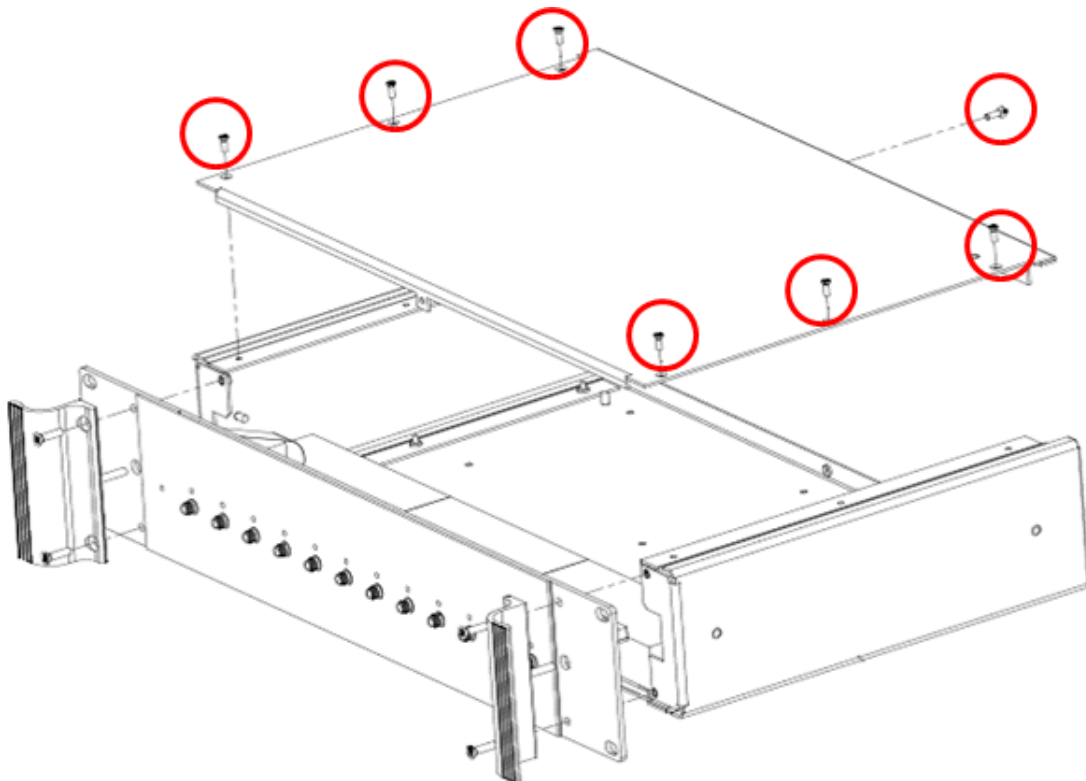

Figure 3-11. Top Panel Screws
2. Referring to Figure 3-11, remove the 7 screws securing the top panel to the unit, then lift the top panel off the unit.